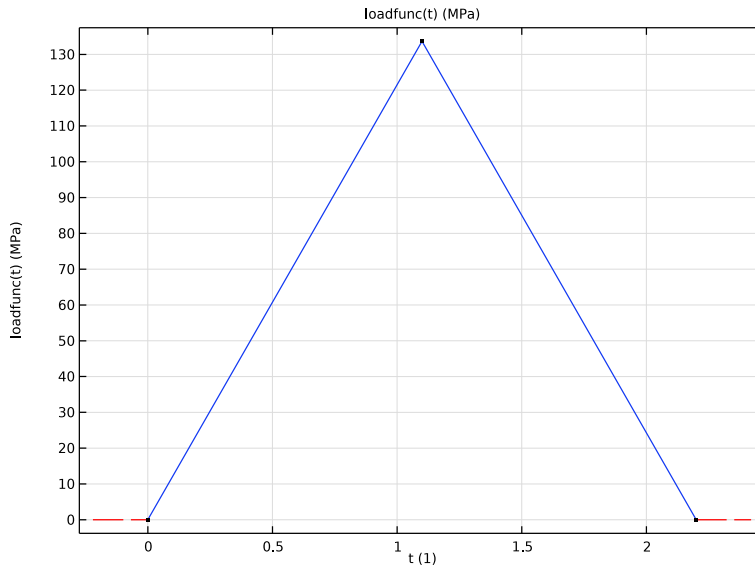

Figure 2: The stress applied to the right vertical edge.
- The right vertical edge is subjected to a stress, which increases from zero to a maximum value of 133.65 MPa and then is released. The peak value is selected so that the mean stress over the section through the hole is 10% above the yield stress ($=1.1 \cdot 243 \cdot (20 - 10)/20$). The complete release of the stress corresponds to a parameter value of 2.2, see Figure 2.